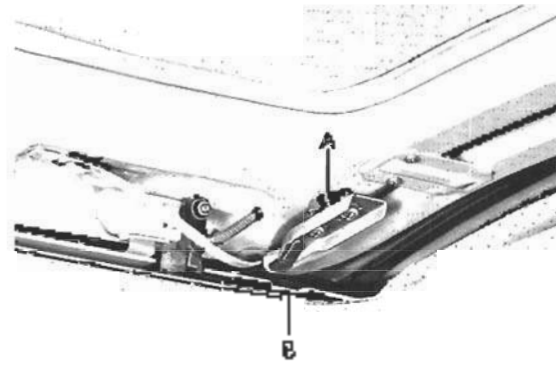

Fig. 8-6. Guide adjusting screw A and recess in sub-runner B.
11. Loosen the two Phillips head screws with spring washers on each rear guide. Then, by turning screw A indicated in Fig. 8-6, adjust the height of each rear guide so that it fits in the recess in the runner when the roof is being opened or closed.